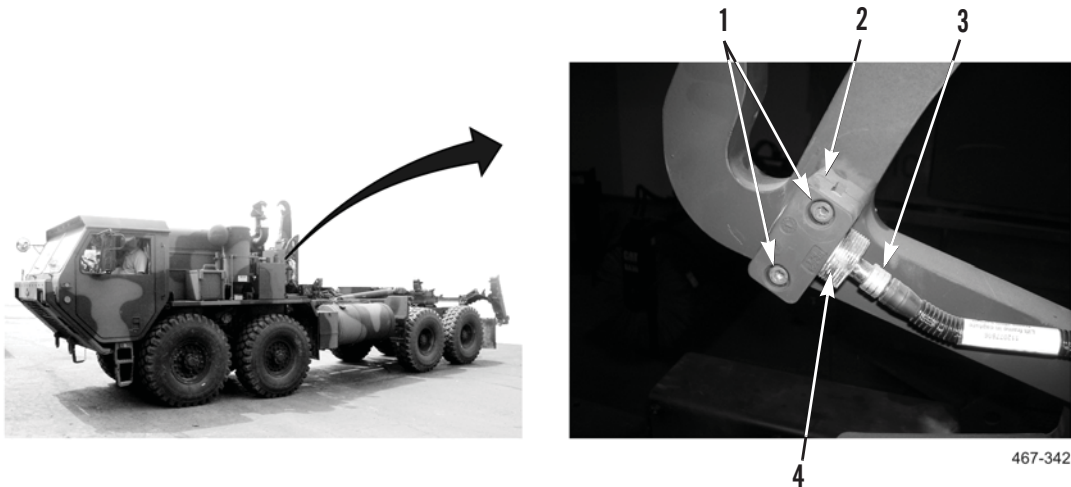

Figure 6. Lift Frame Sensor Removal.
1. Disconnect electrical connector (Figure 6, Item 3) from lift frame sensor (Figure 6, Item 4).
2. Loosen two bolts (Figure 6, Item 1) in cable clamp (Figure 6, Item 2).
3. Remove lift frame sensor (Figure 6, Item 4) from cable clamp (Figure 6, Item 2).
1. Loosen two bolts (Figure 6, Item 1) in cable clamp (Figure 6, Item 2) and insert lift frame sensor (Figure 6, Item 4) into clamp.
2. Adjust lift frame sensor (Figure 6, Item 4) placement until end of sensor is flush with cable clamp (Figure 6, Item 2) and tighten two bolts (Figure 6, Item 1).
3. Connect electrical connector (Figure 6, Item 3) to lift frame sensor (Figure 6, Item 4).